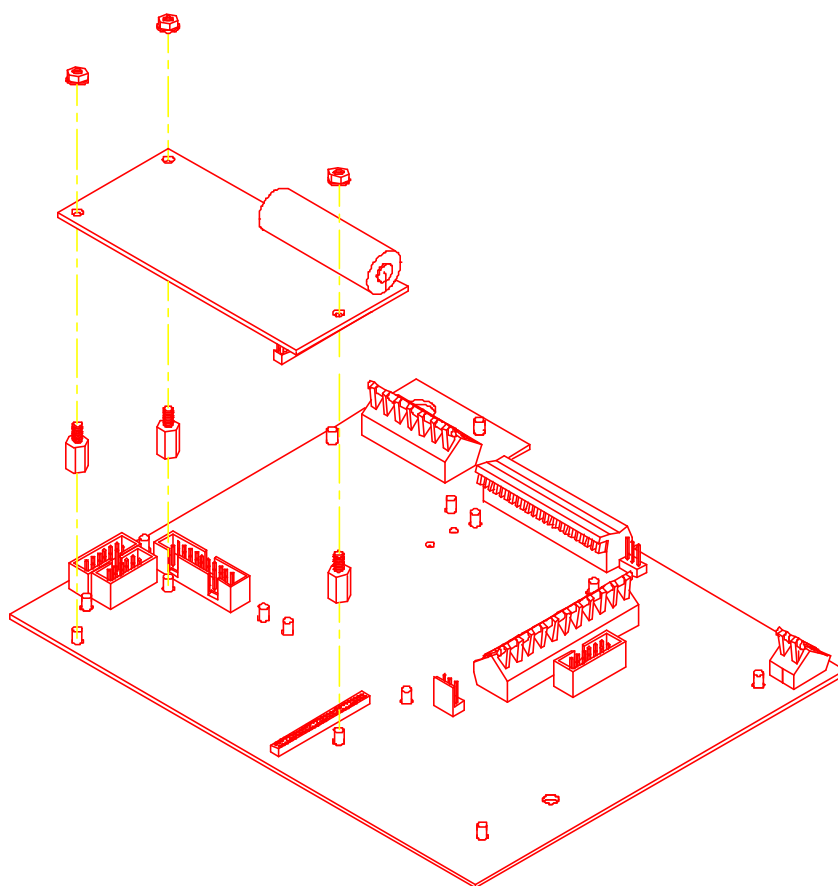
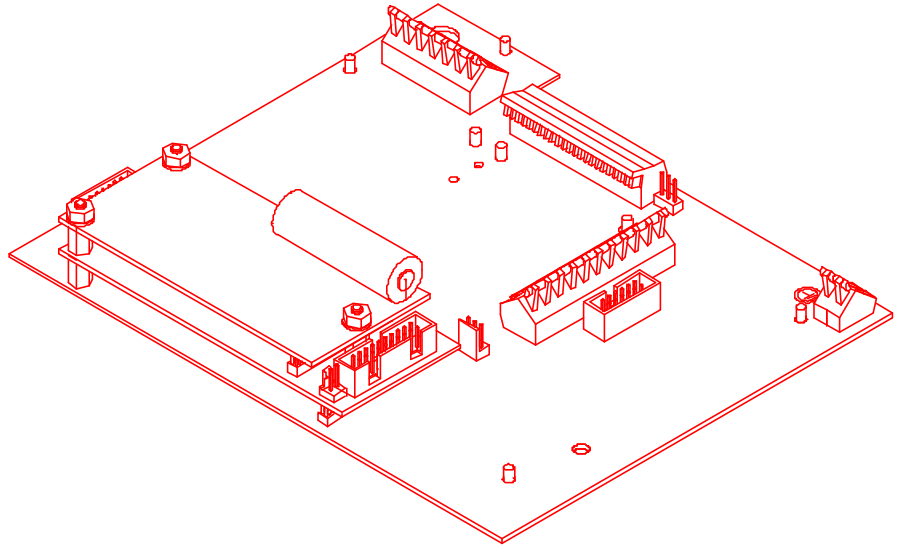

Figure 13-1: Database Module Installation
Figure 13-2: Database Module On Top of The LCD Interface
The 660 Series Bus Options are mounted directly on the 660 Series main board using the hardware included in the kit. See Figure 13-1 or Figure 13-2 for database module installation in the 660 Series controllers.
1. Install three aluminum standoffs on the three short studs protruding through the main board using a 6mm socket or wrench. See Figure 13-1.
The 662, 665 LCD, and 663 LCD will have an LCD Interface Board installed upon the J9 main board connector. The database module is designed to mount directly on top of the LCD Interface Board. See Figure 13-2.